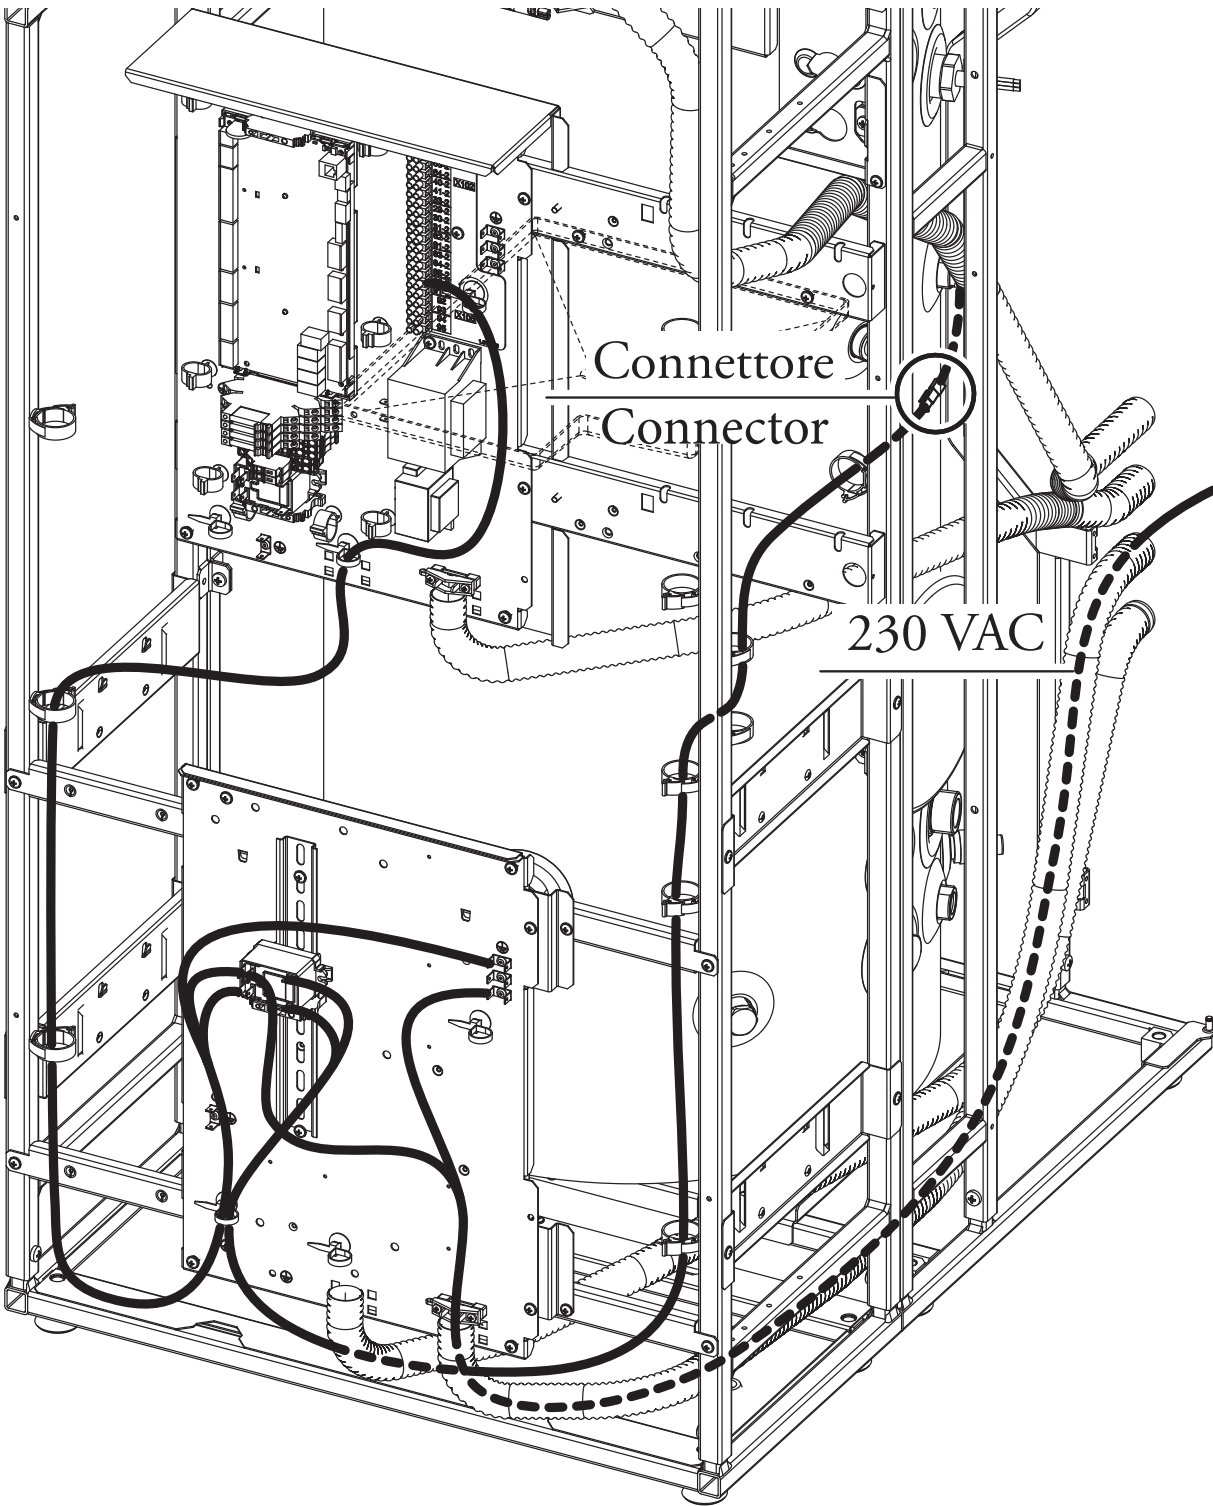

Fig. 5
- Eliminate cap (1) and the relative O-ring (2)
- Place the O-ring (6) on the resistance (5)
- Insert the resistance (5) fixing it to the storage tank.
- Open the cover (3) of the optional kit panel by unscrewing the 4 screws (4).
- Place the relay (10) on the relative mount (9).
- Insert the terminal board holder (8) on the slide.
- Perform the electrical connections as described in the wiring diagram (Fig. 3) using the relative wire path diagram (Fig. 5).